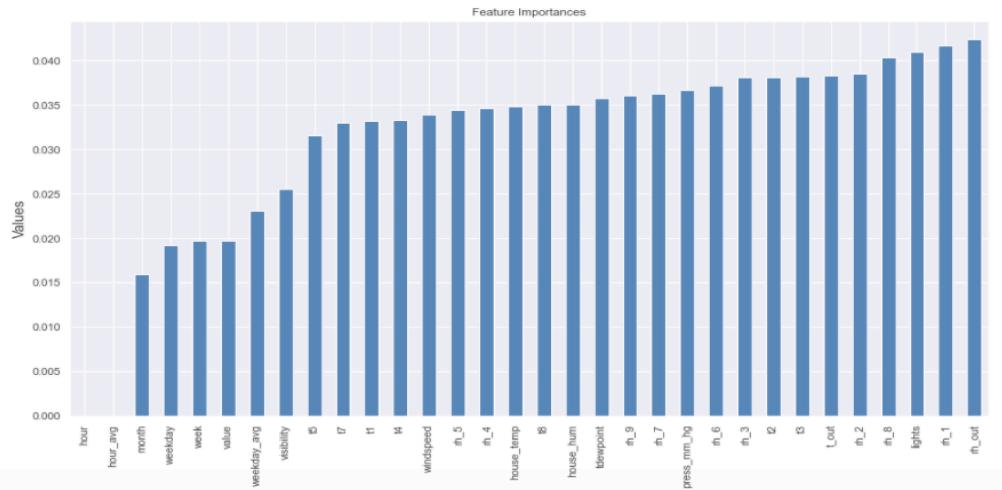

Fig 46
g. Important features contributing from the data set are as below in fig 46 –